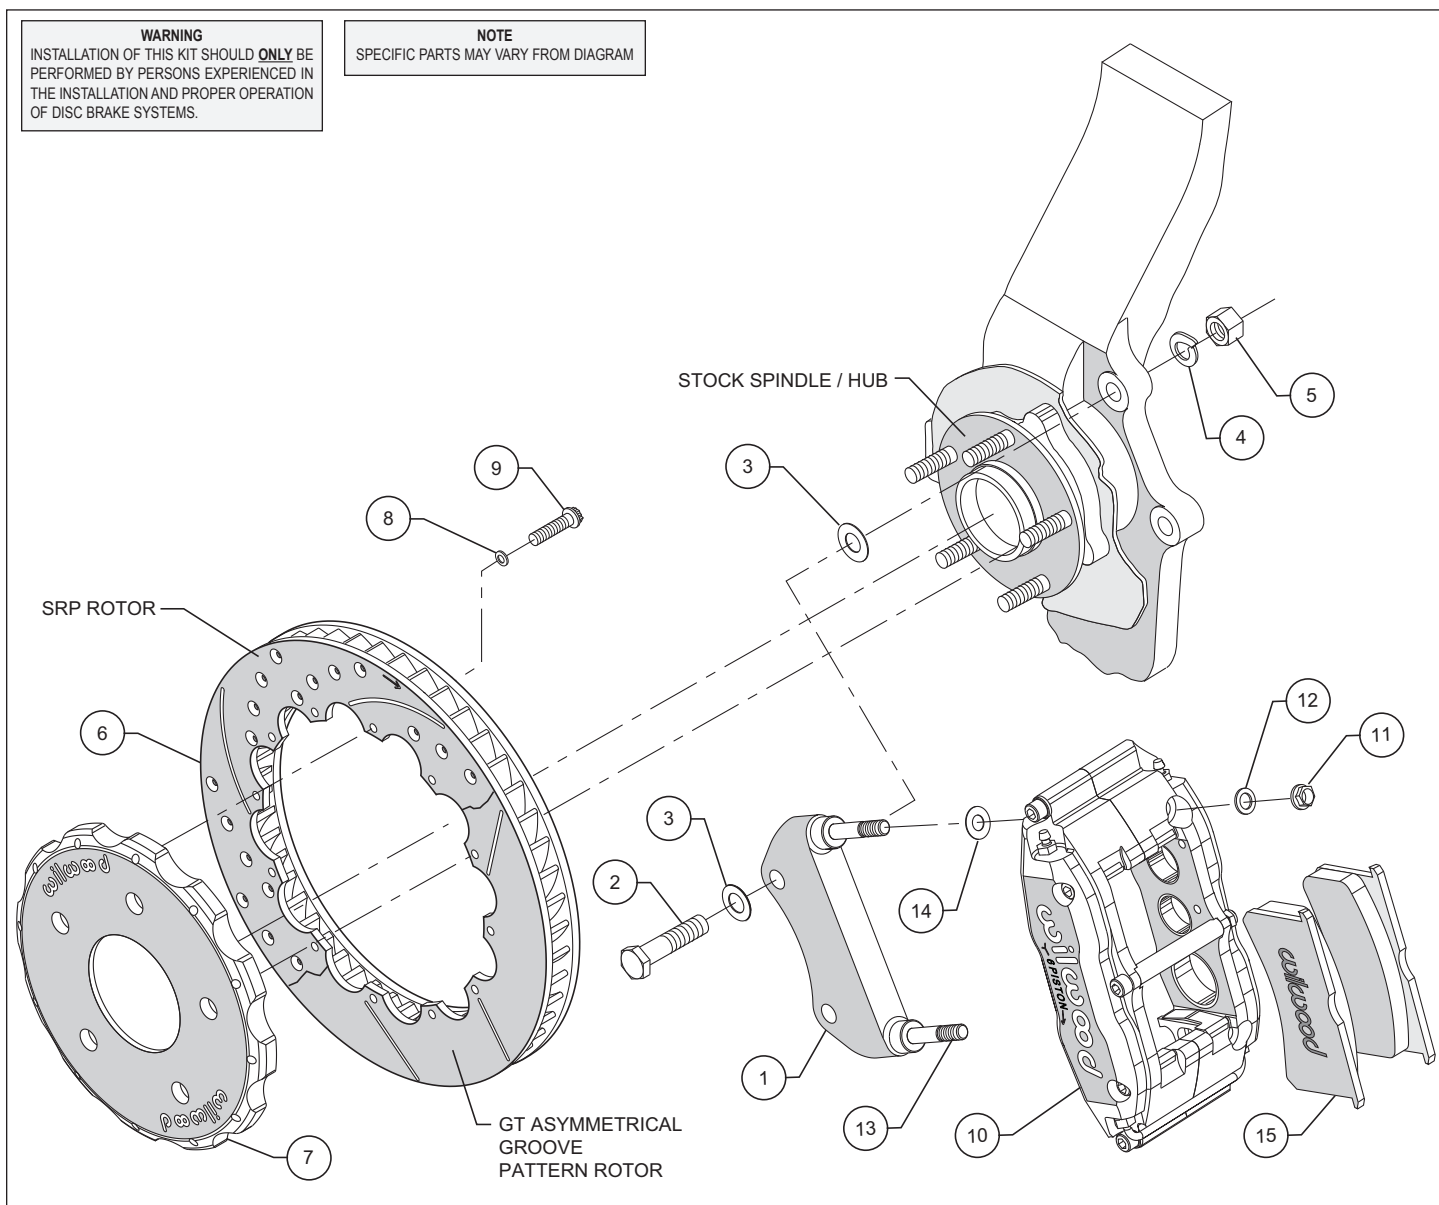

Figure 1. Typical Installation Configuration
- The caliper mounting bracket assembly (1) should be installed first with clean, dry threads on the mounting bolts. Install the bracket from the front side of the spindle by sliding bolt (2) through washer (3) and bracket (1). Slide lock washer (4) onto bolt (2) from the rear side of the spindle. Secure with nut (5). Place shim washer (3) between the bracket (1) and the spindle (see Figure 1). The bracket must tighten squarely against the side of the spindle body. Inspect for interference from casting irregularities, machining ridges, burrs, etc. Use one thin shim (3) between the bracket (1) and spindle during initial trial fitting.